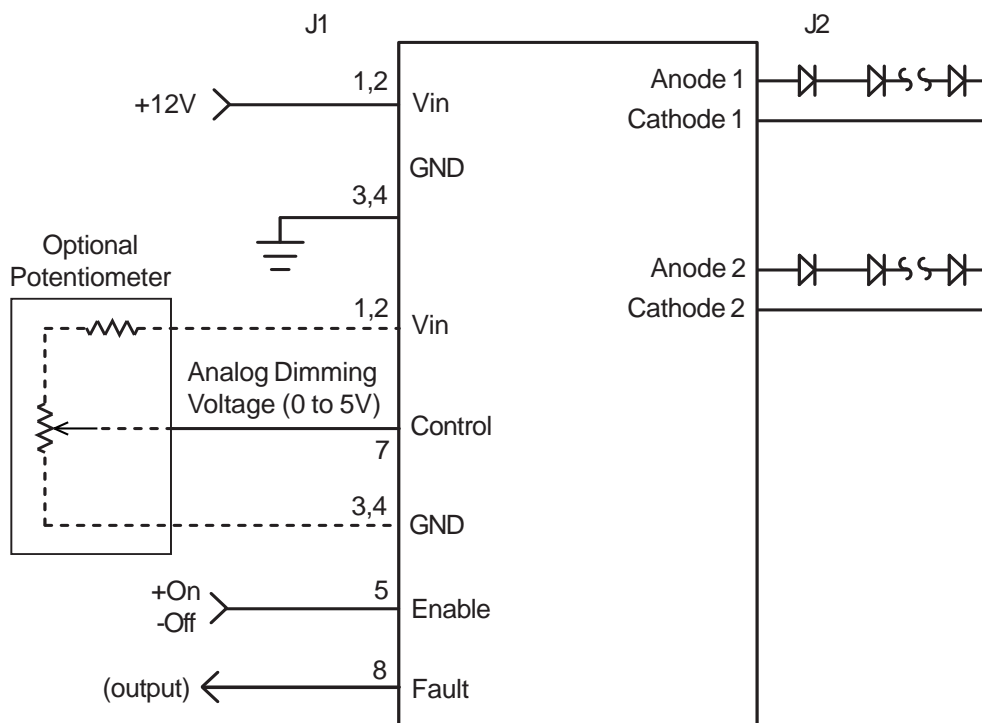

Figure 1
- **OPERATION:** Onboard PWM configuration as shown in Figure 1 allows the user to control display brightness by controlling the onboard PWM generator. The user is responsible to provide an analog control signal.